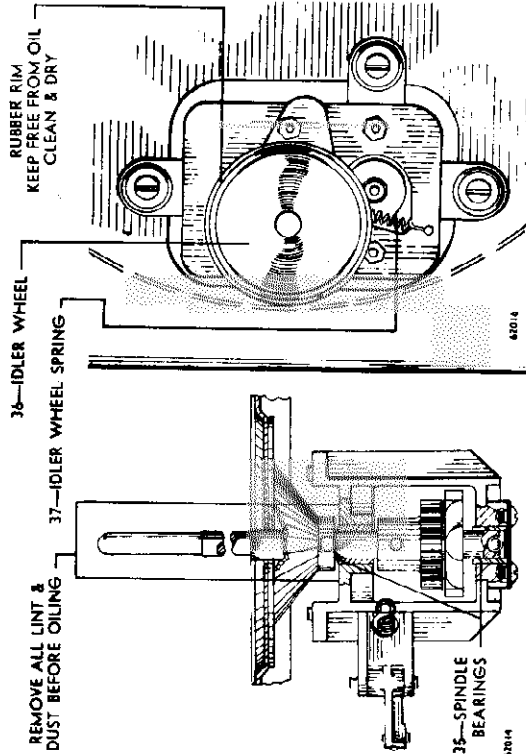

FIGURE 23.
M. TURNTABLE SPEED should be checked with a stroboscopic disc under running conditions and with the needle on a record. Slow speed may be produced by lack of lubrication in the spindle bearings (35) or slipping of the idler wheel (36). In the latter case, examine for a weak idler spring (37) or for oil in the rubber rim which must be clean and dry. (See fig. 23)